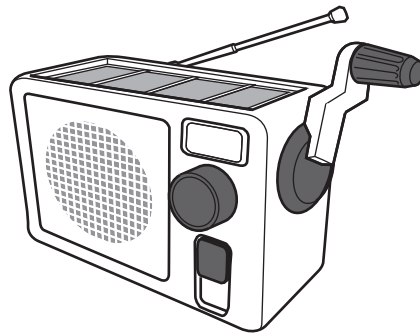

Fig. 9.1
- 9 Fig. 9.1 shows a rechargeable wind-up radio.